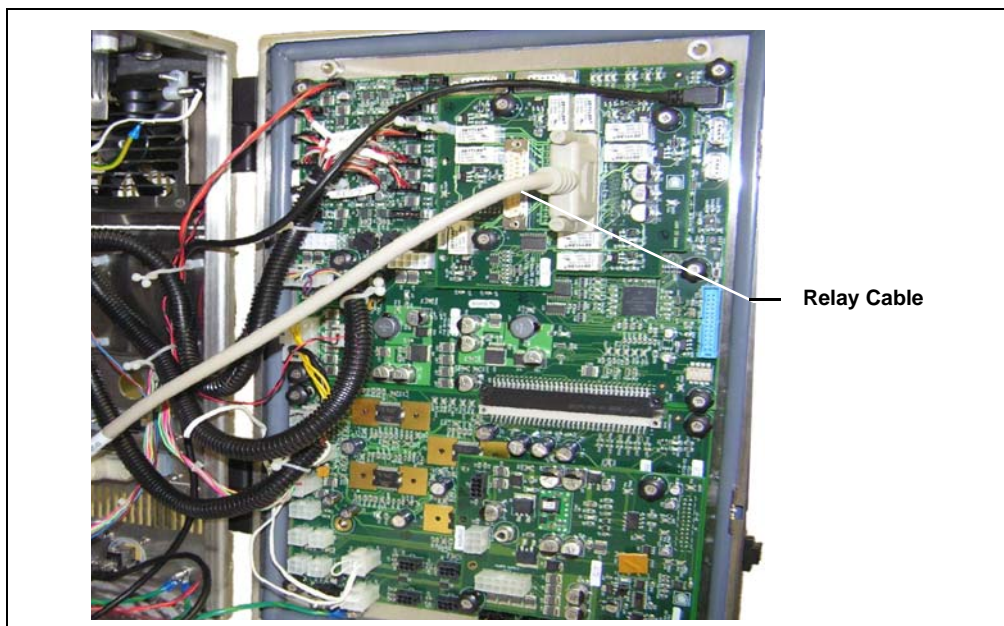

Figure C-5. Cable Plugged Into Relay Connectors on the SP TTL/Relay Panel and SP TTL/Relay Controller Board
3. Plug one end of the male-to-male relay cable into the male connector on the rear of the TTL/relay panel (inside the SP enclosure) (see Figure C-5).